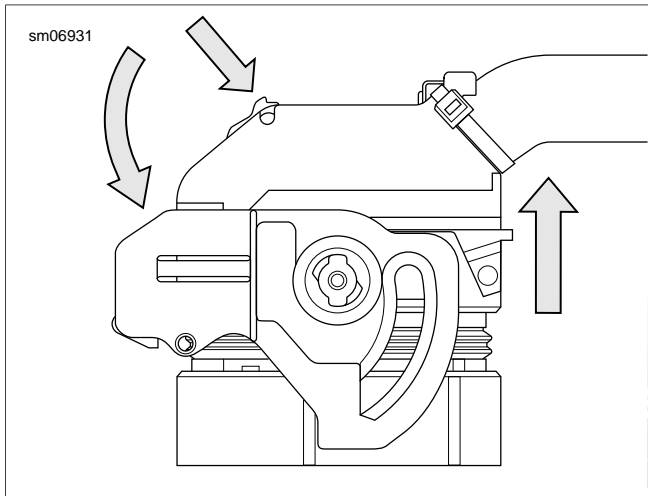

Figure A-42. Release
**Release:** See Figure A-42. Press the catch and rotate the lever arm down.